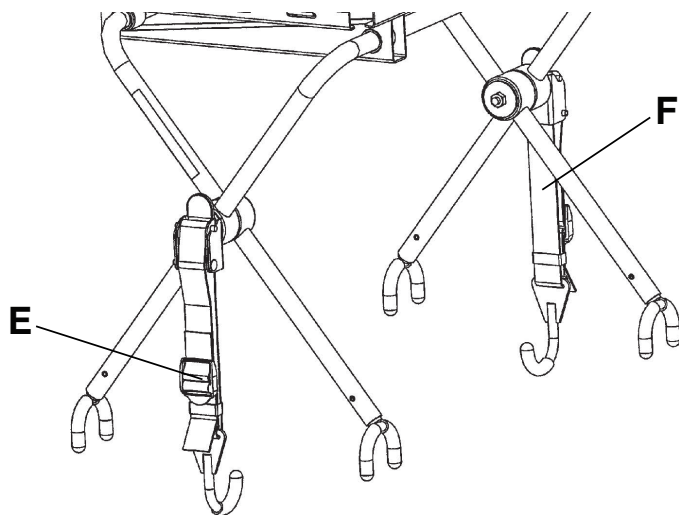

Figure 34 – Attach defibrillator platform to the cot
9. Secure the straps (E) to hold the defibrillator on the defibrillator platform (Figure 34).